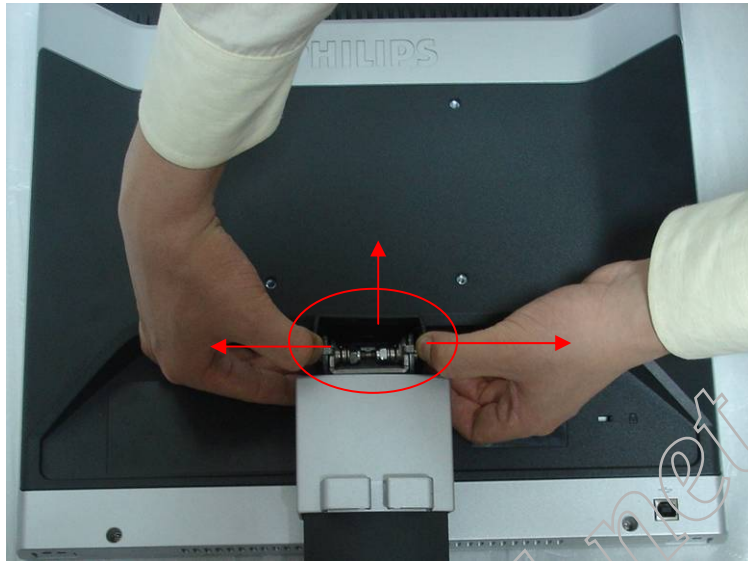

Fig.3
3. Remove rear cover as Fig.3.
Pull out the stand cover emphatically as fig.3.